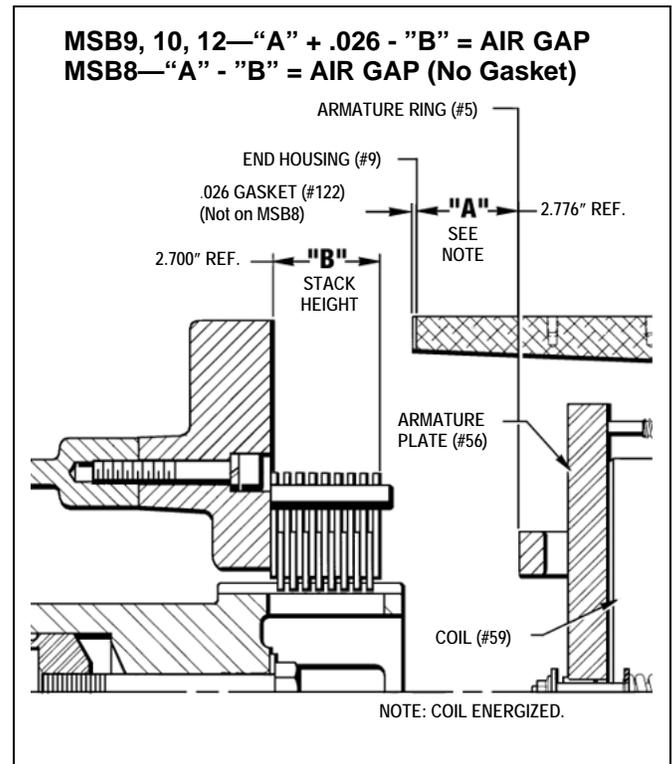

Figure 7.4 - Checking Air Gap for MSB12
If the Brake Stack needs replaced then the new Brake Stack, consisting of (9) Drive Plates (#12) and (8) Friction Discs (#13), needs to be measured to determine whether or not any Shims (#986) are required in the stack to attain an **Air Gap of .07”-.09”**. The Air Gap is the space between the front face of the Coil (#59) and the back face of the Armature Plate (#56) with the Brass Shim (#184) attached to it. (See Figure 7.4)